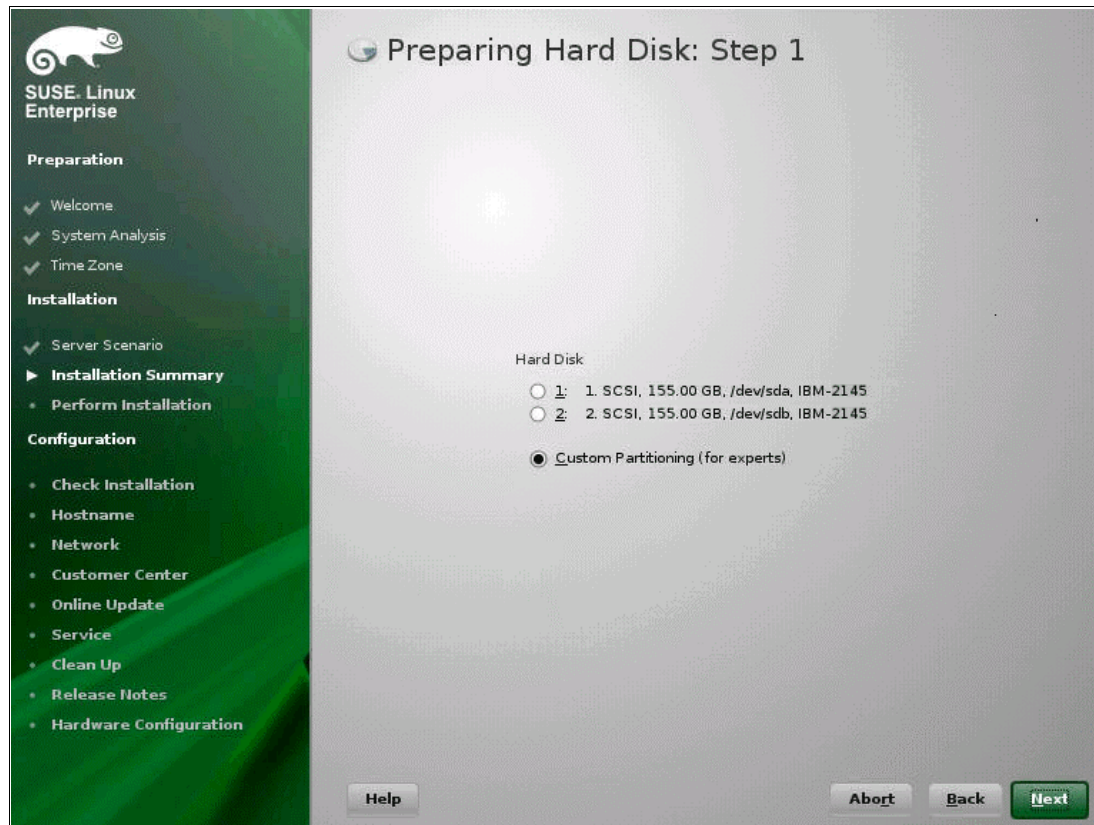

Figure 5-101 Select boot LUN from SVC
8. Click the **Partitioning** link to change the partition information from default drive to the volume allocated on Storwize V7000 for SAN Boot, as shown in Figure 5-101.